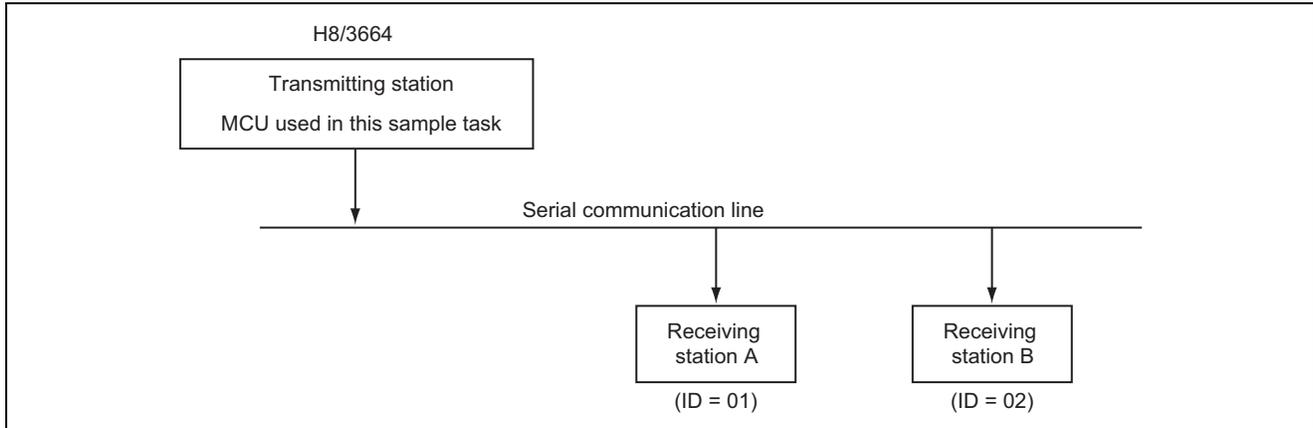

Figure 1 Multiprocessor Communication
1. Data H'B8 is transmitted to receiving station A and data H'DE is transmitted to receiving station B by the multiprocessor communication function, as shown in figure 1.